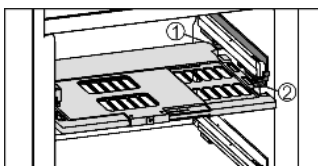

Fig. 15
- To insert the humidity control plate: Insert the cover mouldings of the plate into the rear holder Fig. 15 (1) from underneath and engage them in the holder Fig. 15 (2) at the front.